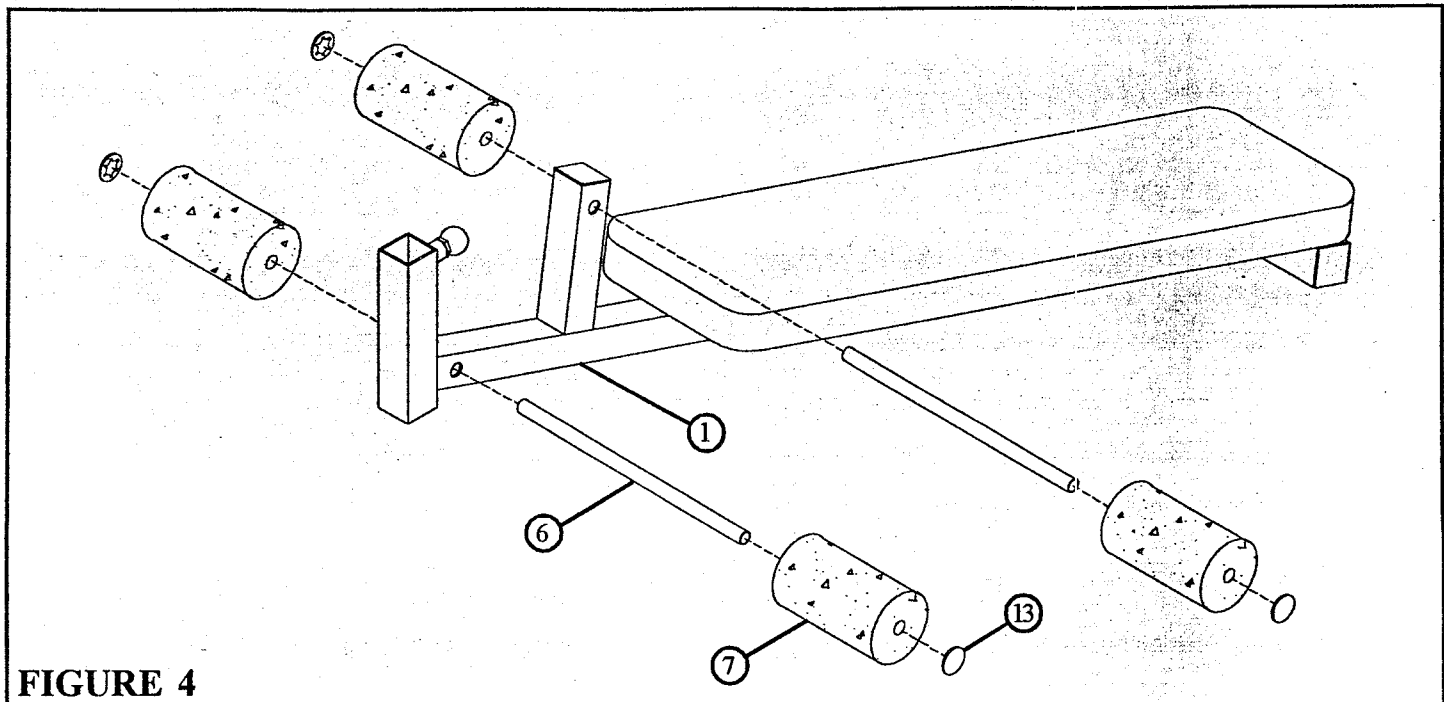

FIGURE 4
- Slide the four ROLLER PADS (7) onto the MAIN PAD SUPPORT (3) using two 3/4 X 16" TUBES (6), and four STARLOCK COLLARS (13) as shown in FIGURE 4.